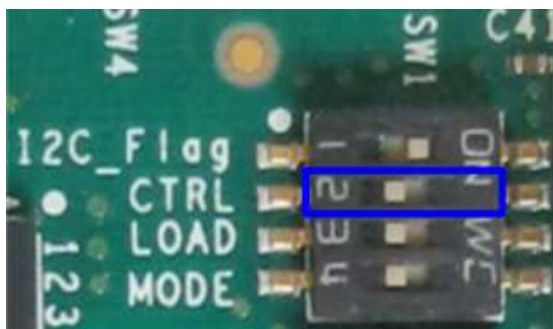

Figure 2-8 Source power to the PCIe for Arria10 SoC board
- Set SW1[2] = OFF position to source power to the PCIe, as shown in Figure 2-8.